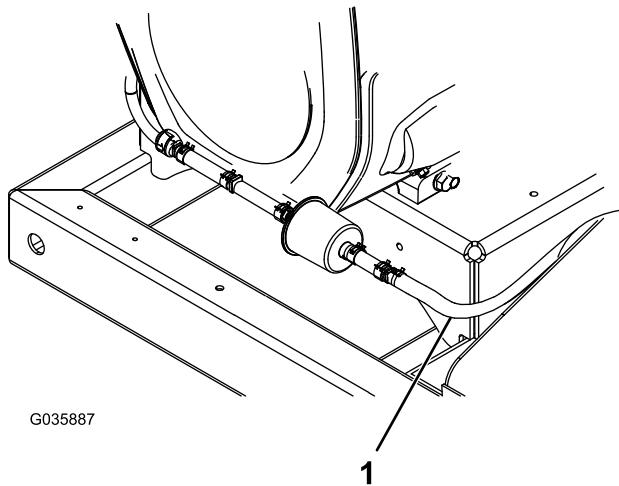

Figure 9
10. Attach the vent line hose to the carbon canister using the previously removed hose clamp (Figure 9).